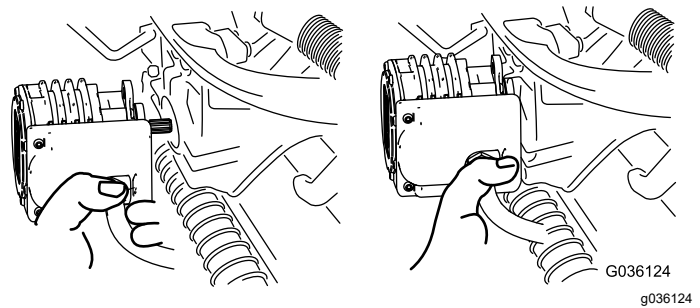

Figure 66
5. Move the motor to the storage location on the front of the suspension arm (Figure 66).